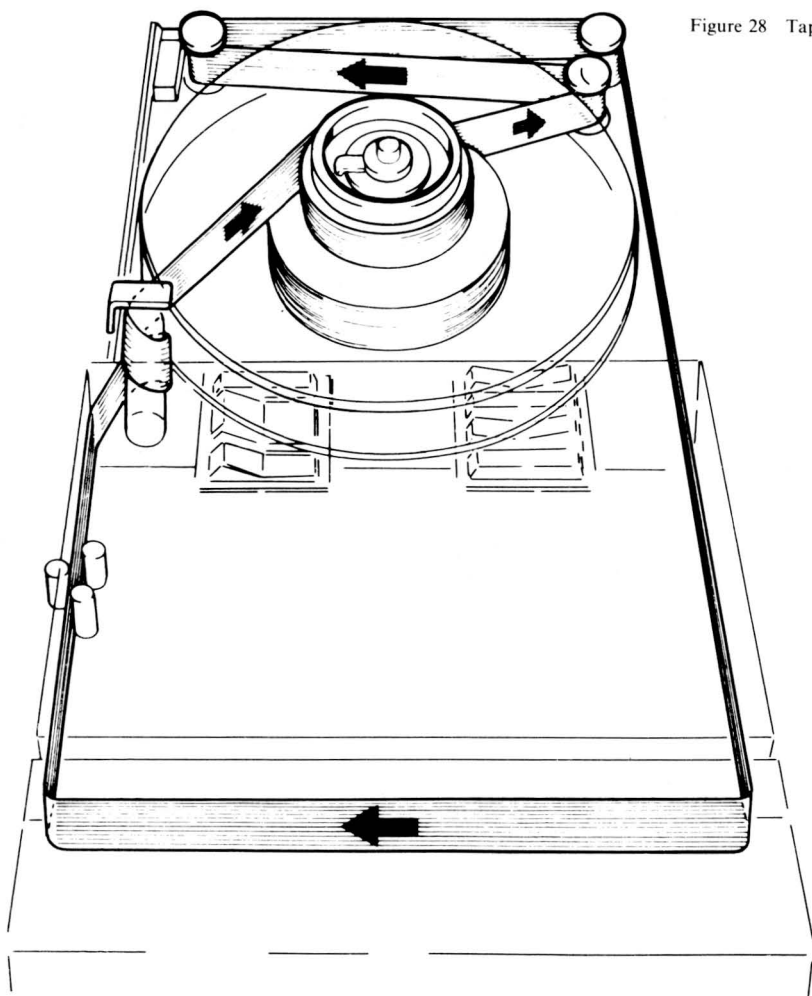

Figure 28 Tape path
- Step 5 Lead the tape around the first fixed guide in the righthand corner as shown in Figure 28, then around the moveable guide and back around the second fixed guide. Drop the tape into the tape path and inside the loop controller.